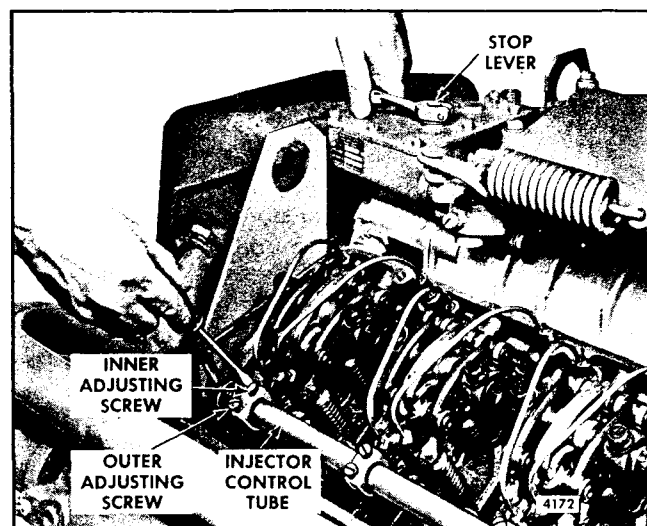

Fig. 10 - Positioning No. 1L Injector Rack Control Lever
6. Move the stop lever to the RUN position and hold it in that position with light finger pressure. Turn the inner adjusting screw of the No. 1L injector rack control lever down (Fig. 10) until a slight movement of the control tube is observed, or a step-up in effort to turn the screw driver is noted. This will place the No. 1L injector rack in the full-fuel position. Turn the outer adjusting screw down until it bottoms lightly on the injector control tube. Then alternately tighten both the inner and outer adjusting screws.